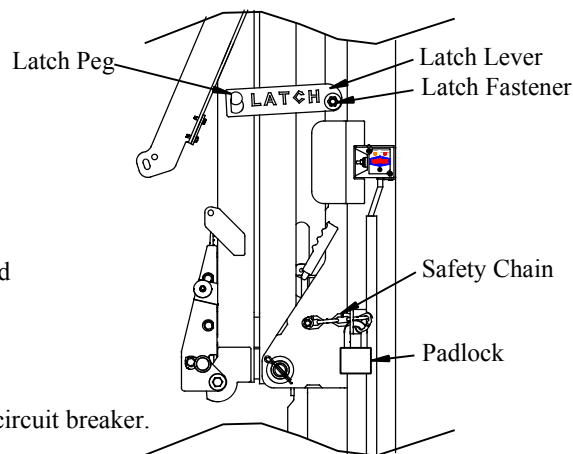

Figure 1
1. **Remove** the latch padlock and **Unhook** the safety chain (Figure 1).
2. **Unlatch** the latch lever from the latch peg (Figure 1).
29. **Latch** the latch lever over the latch peg (*Figure 1*).
30. **Hook** the safety chain and **Attach** the padlock (*Figure 1*).